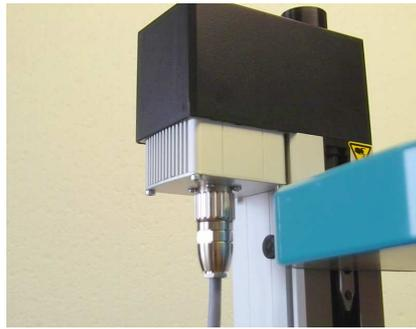
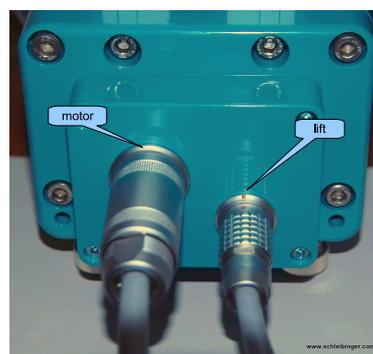

Figure 5: Connector for the Viskomat XL lift unit, used since 2010
Figure 6: Connector for the lift unit, used since 2011
- the lift unit to the Lift socket, until 2010 a black AMP connector with a bayonet socket was used. Fix this connector by turning it 90 degrees. Since 2010 the silver connector is screwed to the socket (see figure 5) From 2011 a for the Viskomat NT a Lemo connector is plugged into the socket. Please don't turn this connector, only push or pull for removing (see figure 6).